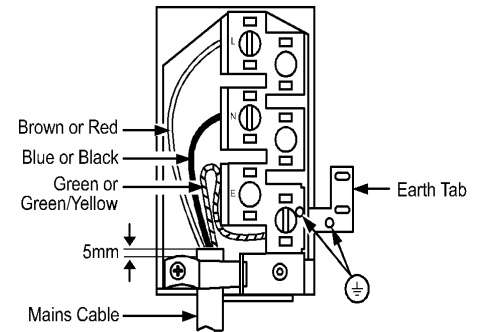

Fig. 11
- Make connection as shown in Fig.11 by proceeding as follows:-
- Clamp the mains cable securely ensuring 5mm of the outer insulation is inside the terminal block and that the wires are not taugt but not so slack as to cause any fouling. See Fig. 11.